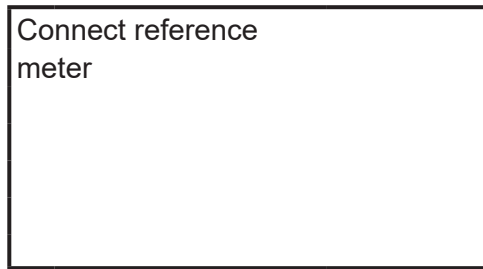

Figure 36 Message stating to connect meter
3. A message stating 'Connect reference meter' will then appear. (Figure 36) At this time, connect a meter to output terminals to measure the current and then press F4 (OK). To abort, press F3 (ABORT) and proceed on to step 11.